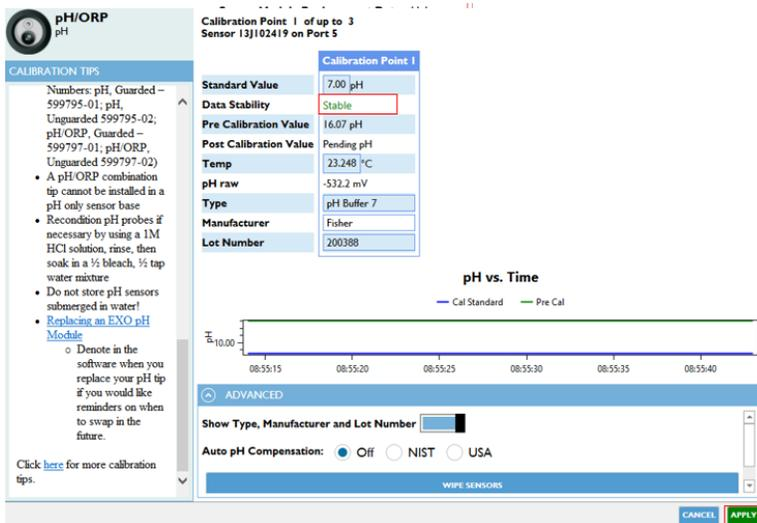

Figure 104. First calibration point.
**STEP 4** | In the Kor software, select the port with the pH sensor probe in the Calibration Menu and then select pH to proceed. In the Device Calibration window, input the following information for a 3-point calibration process (**Figure 104**):